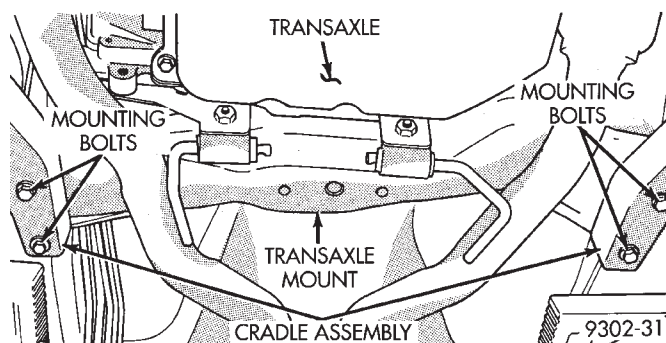

Fig. 14 Transmission Mount To Cradle Assembly Mounting Bolts
(7) Remove the 4 bolts attaching transaxle mount to rear of cradle assembly (Fig. 14).